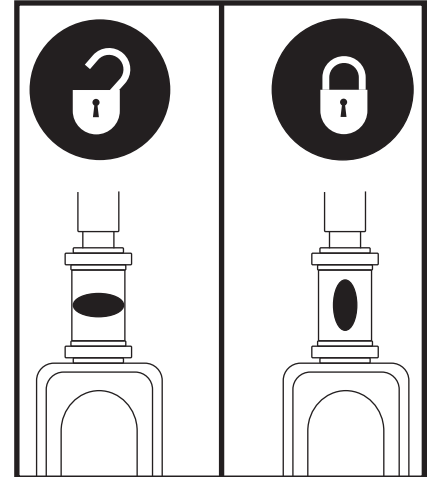

Figure 32. Tiller Lock Knob
2. Lock the tiller in the straight ahead position by pushing the tiller lock knob in and turning it clockwise 90°. **See figure 32.** The front wheel must face forward in order to lock the tiller.
1. Remove the key from the key switch and then lock the tiller in the straight ahead position by pushing the tiller lock knob in and turning it clockwise 90°. **See figure 32.** The front wheel must face forward in order to lock the tiller.
6. Unlock the tiller by turning the tiller lock knob 90° counterclockwise. **See figure 32.**